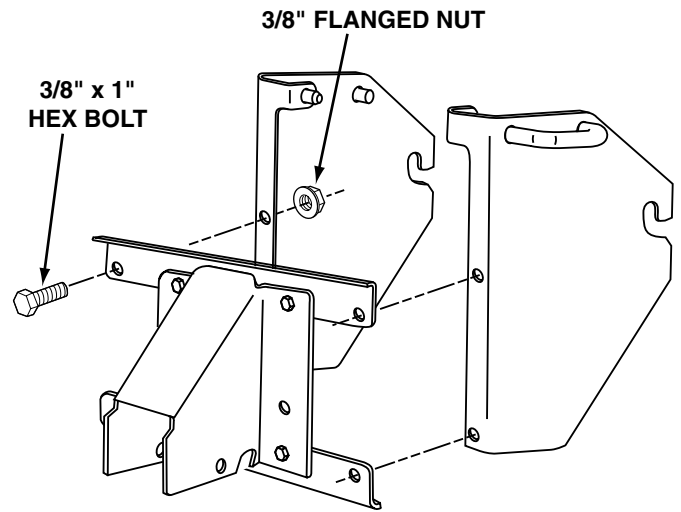

Figure 9
19. Assemble the R.H. and L.H. hitch brackets to the angle support brackets using four 3/8" x 1" hex bolts and 3/8" flanged nuts. See figure 9.